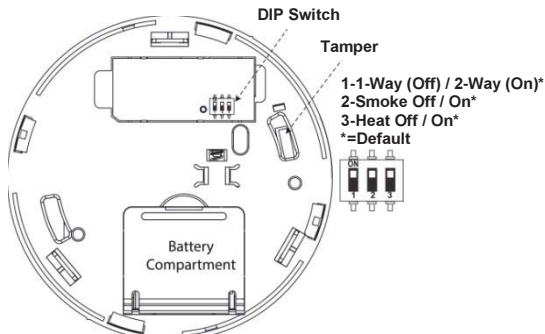

Figure 8: Unit backside: batteries compartment, tamper and DIP switch
- ◆ Dead-air spaces, which are often at the top of a peaked roof, or in the corners between ceilings and walls. Dead air may prevent smoke from reaching a detector. See Figures 8 and 9 for recommended mounting locations
- [For one-way operating mode]: Set the DIP switch 1 to 1-way, and configure either smoke (2), heat (3) or smoke and heat.
- Open the battery compartment cover (see Figure 8).